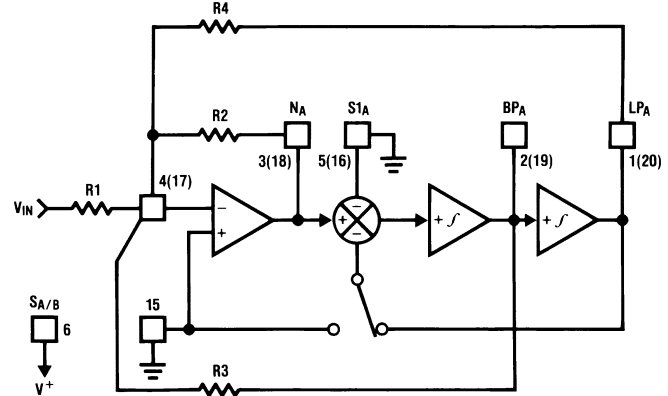

Figure 43. MODE 2
8.4.1.4 MODE 2: Notch 2, Bandpass, Lowpass: $f_{\text{notch}} < f_0$ (See Figure 43)